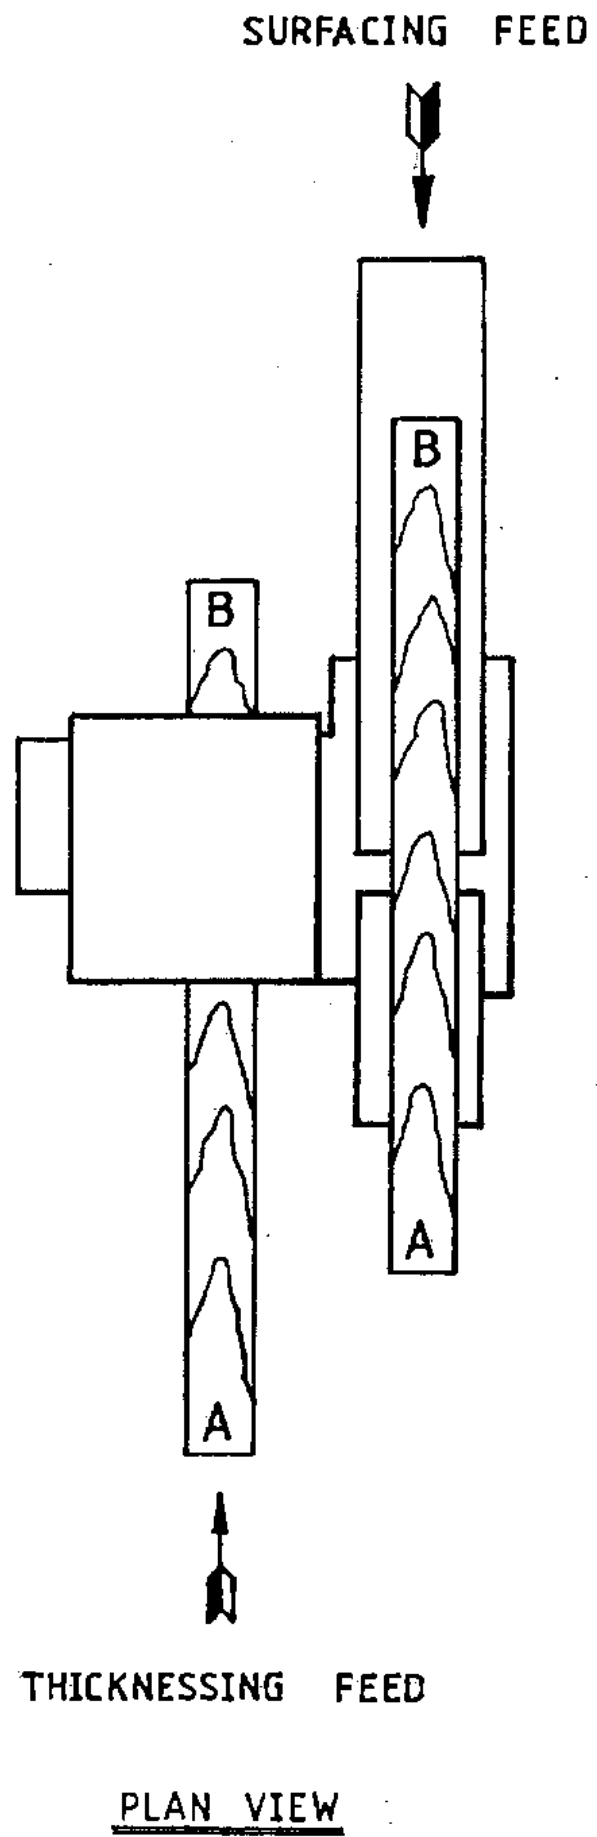

FIG. 21
- b) Retrieve timber held by power feed unit after surfacing operation and feed back into machine for thicknessing as shown in FIG.21, ie, planed faces against fence and table.